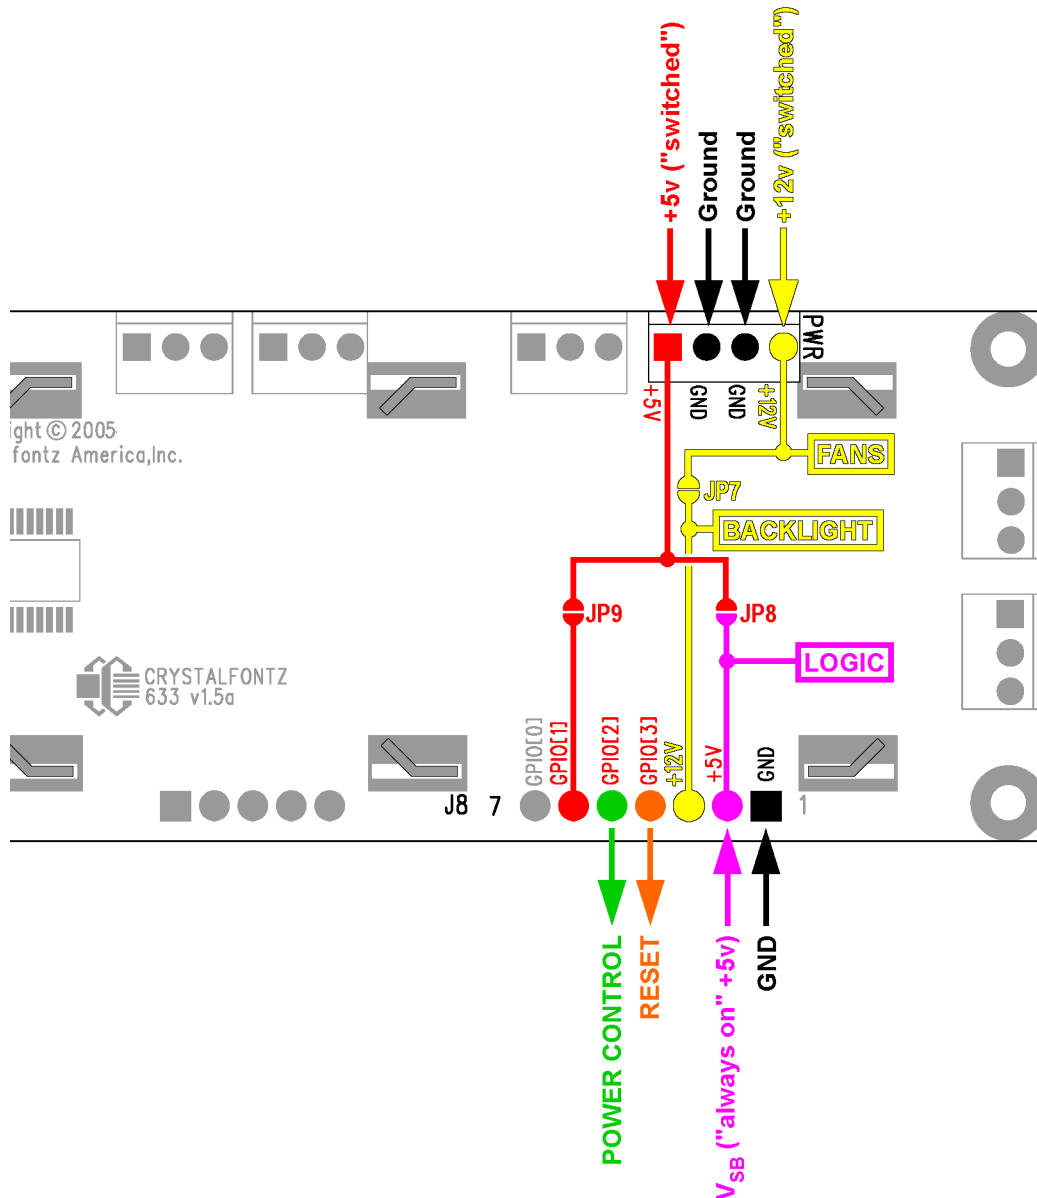

Figure 4. CFA633-YYB-KS ATX power supply and control connections
*JP7 must be opened for the operating range of +12v fans to be different from +12v backlights (listed in this table). If JP7 is closed (which is the factory default), then the voltage specification range for backlights must be observed for both backlights AND fans. Please see Figure 4. on Pg. 12.